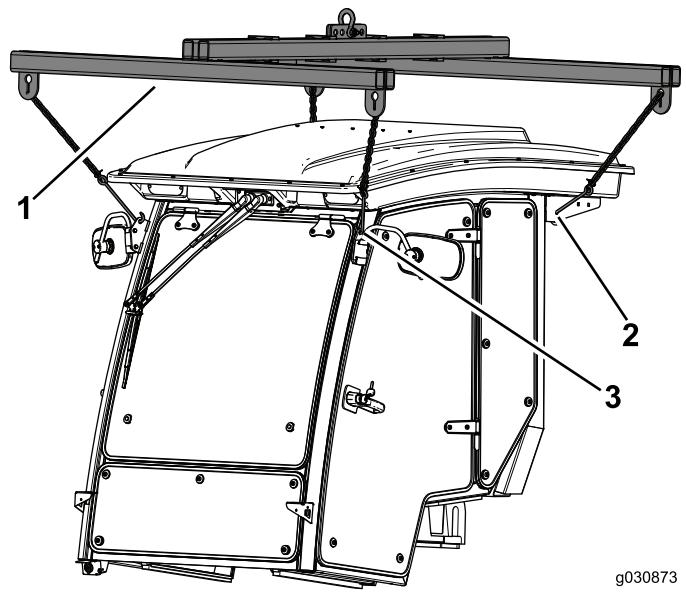

Figure 26
- Use the 4 lift points to support the cab above the machine (Figure 26).